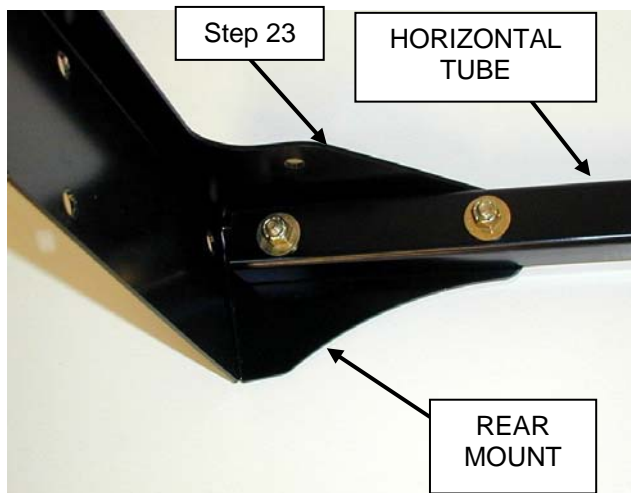

Figure 1
23. Start by assembling horizontal support tubes into the rear mount bracket. Secure components with (4) 5/16" x 1.50" bolts, (8) 5/16" flat washers and (4) 5/16" nylock nuts. See Figure 1.